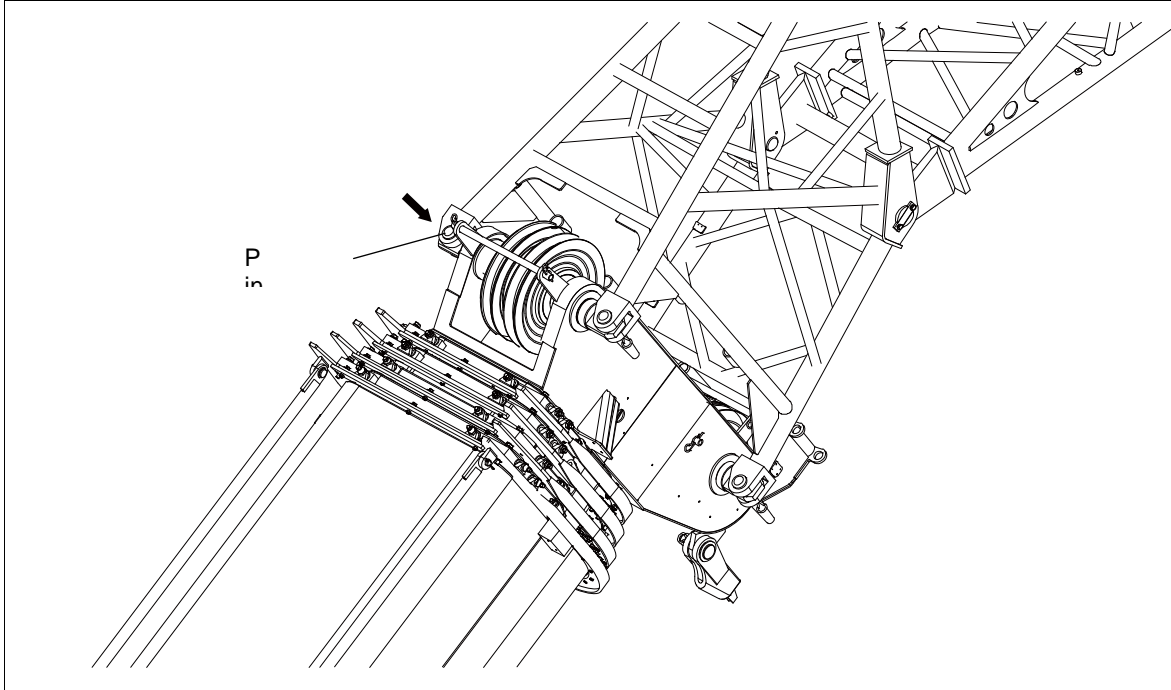

Figure 7-41 Pin VI installation
- N. Align the end of the jib with connection points on the main boom. Install the pin VI and the retaining clip. Refer to Figure 7-41.